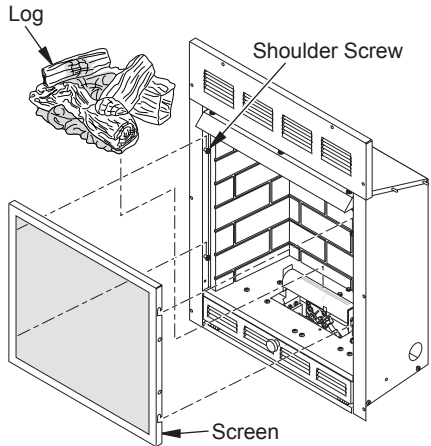

Figure 13 - Installing Log and Screen (Mantel Not Shown)
1. Remove log packaging material and discard packaging. Gently place log over the burner (see Figure 13). Do not allow log to contact flame. If flame contacts log, soot will be created.